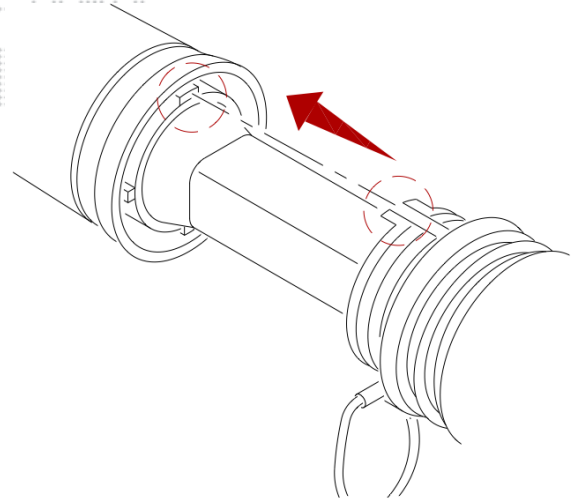

Figure 4-14: opticalCON connector reassembly
- Step 10. Reassemble the opticalCON connector. **(Figure 4-14)**